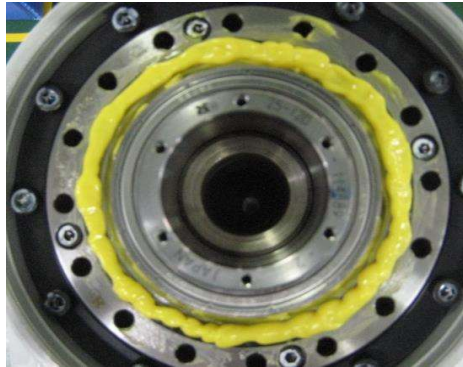
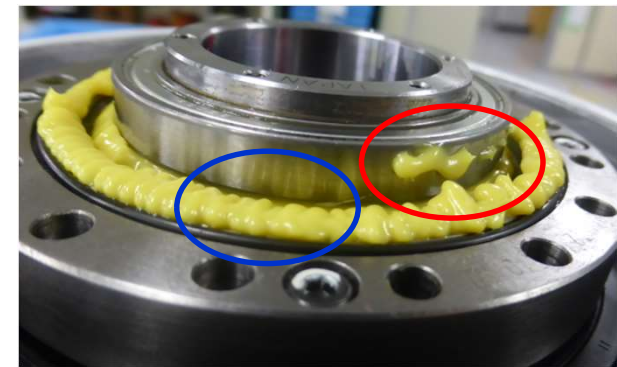

Fig.1
Fig.3
1. Grease is only applied on the inside of the O-ring. Refer to fig 1. and fig 3.
3. No grease is allowed on the outside surface of the bearing. Refer to Fig 3.